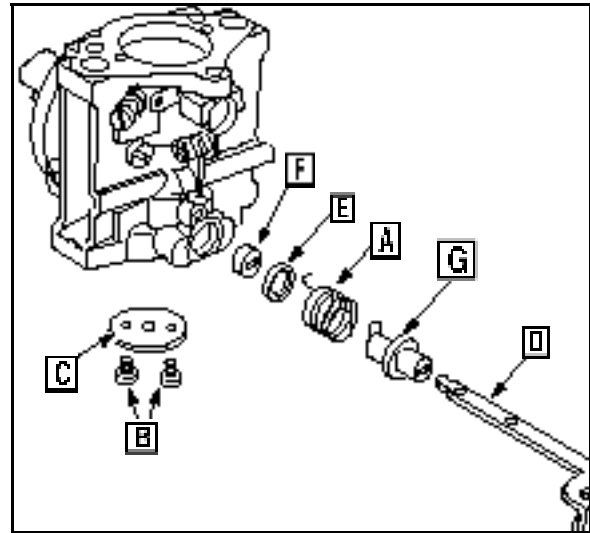

Fig. 101
9. Unhook the choke shaft spring ([A] Fig. 101).
10. Remove the choke plate screws (B). Remove the choke plate (C). Remove the shaft (D), spring (A), washer (E), and retainers (F) and ([G] Fig. 101).
13. Remove the throttle shaft screws ([B] Fig. 101) Remove the throttle plate.